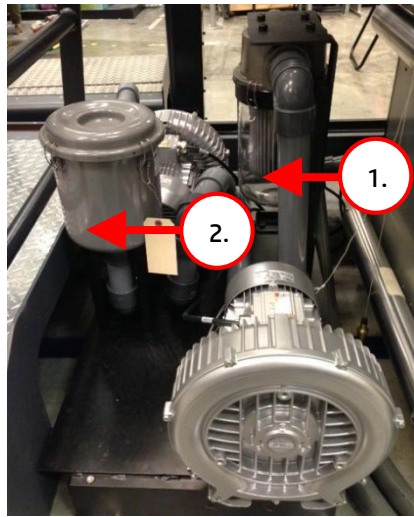

Figure 24. Aerosol filter housing
3. Remove the filter canister lid by opening the four latches. See #2 in Figure 24.
5. Inspect the transparent filter canister, see #1, in Figure 24. If there is an accumulation of BA: